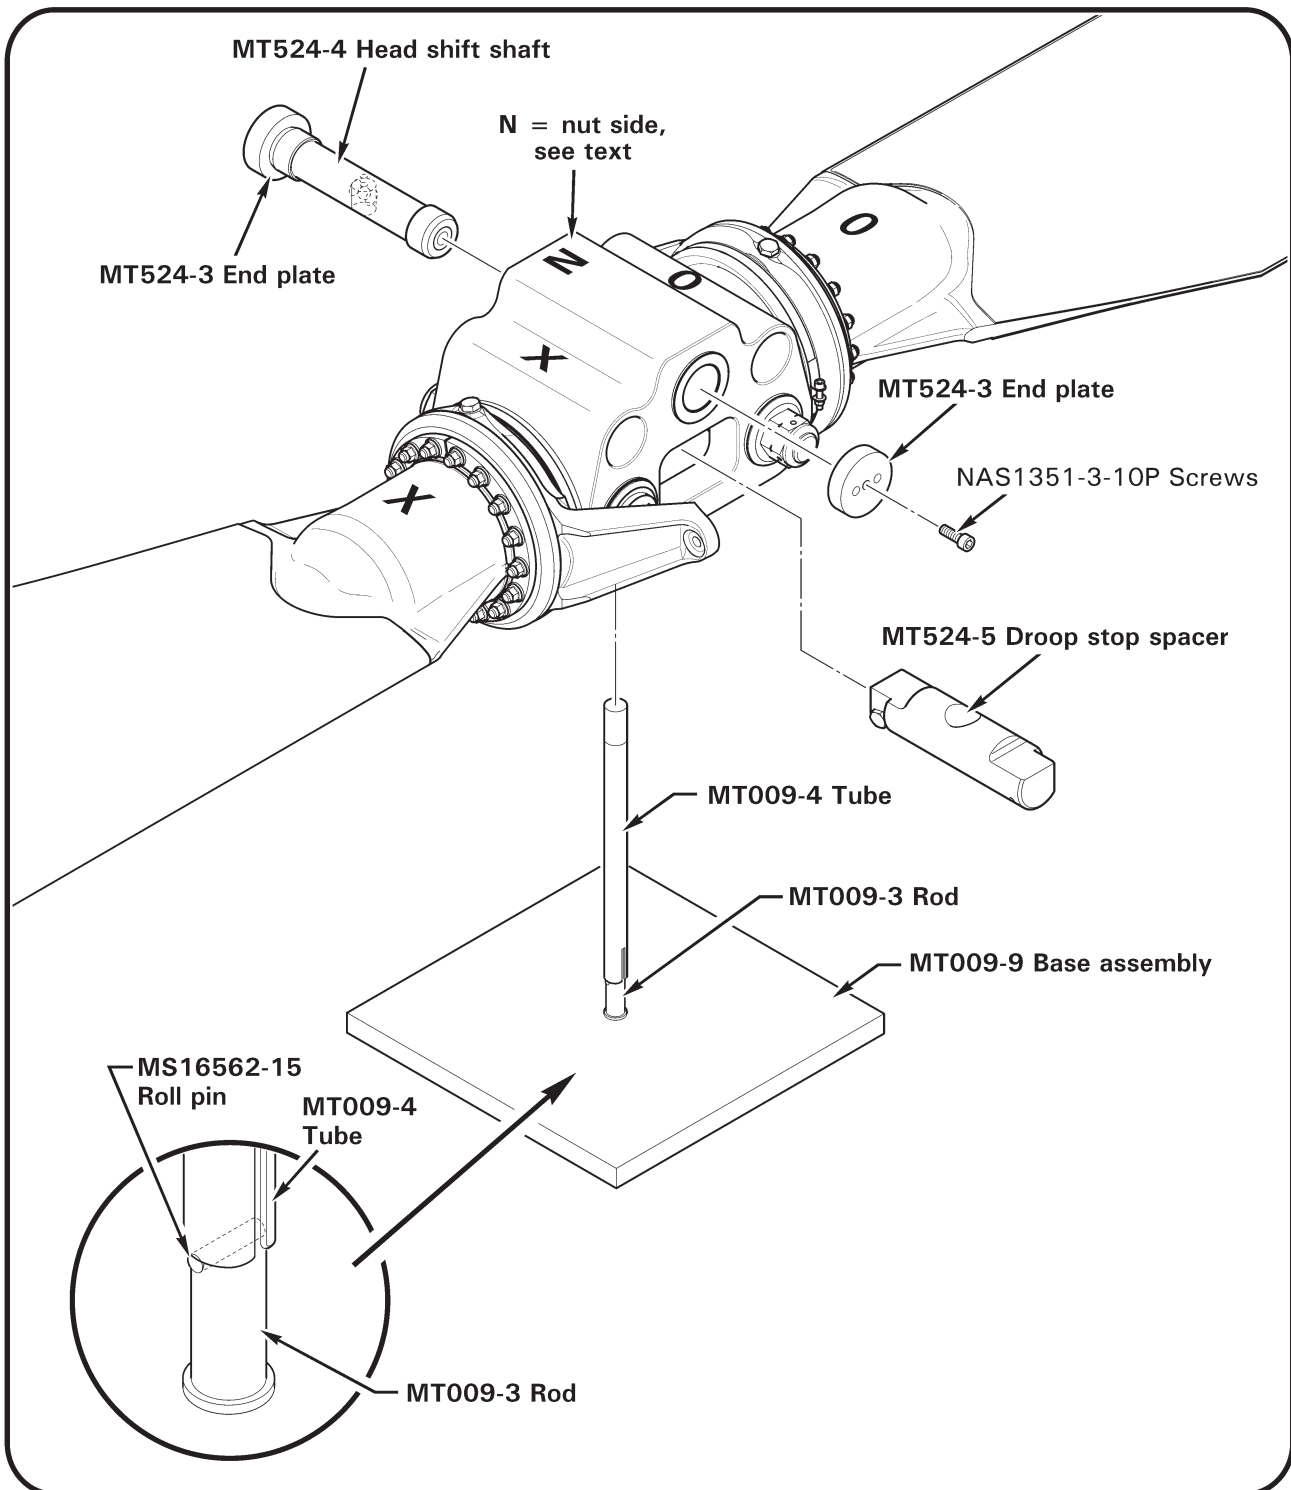

FIGURE 28-11A MT524-2 MAIN ROTOR STATIC BALANCE FIXTURE ASSEMBLY
3. Refer to Figure 28-11A. Install MT524-2 main rotor static balancing fixture assembly in hub as shown. Hoist main rotor assembly and position on MT009-9 base assembly.